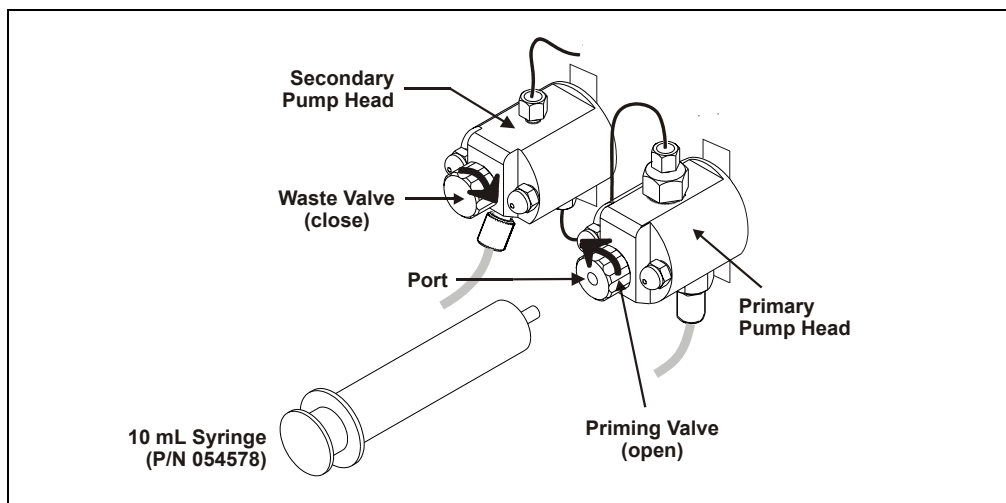

Figure 35. Priming the Eluent Lines
2. Connect a 10 mL syringe (P/N 054578) to the port in the priming valve on the primary pump head (see Figure 35).